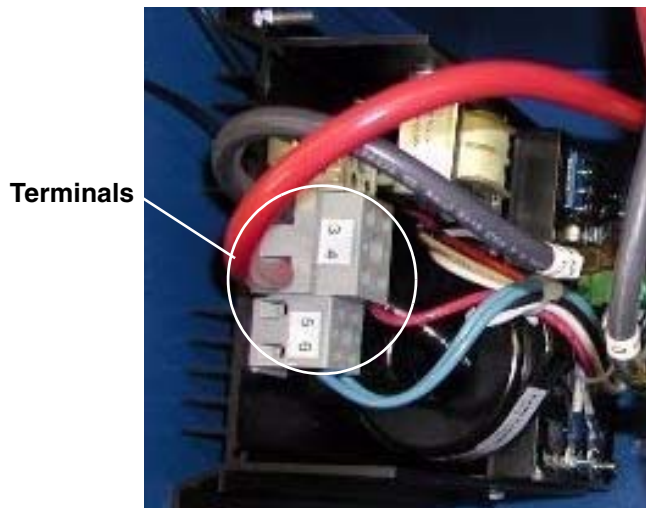
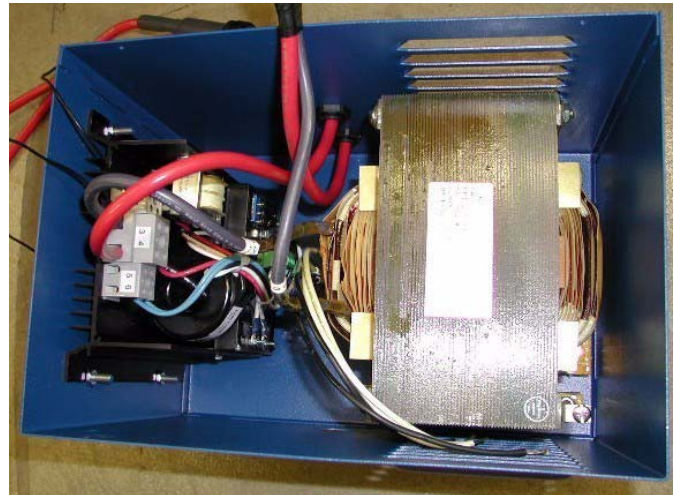

FIG. 6: AmpLok® Controller (HV-20/35)
FIG. 7: HV-20/35 Before Conversion
2. Remove AmpLok® controller. See FIG. 6 and FIG. 7.